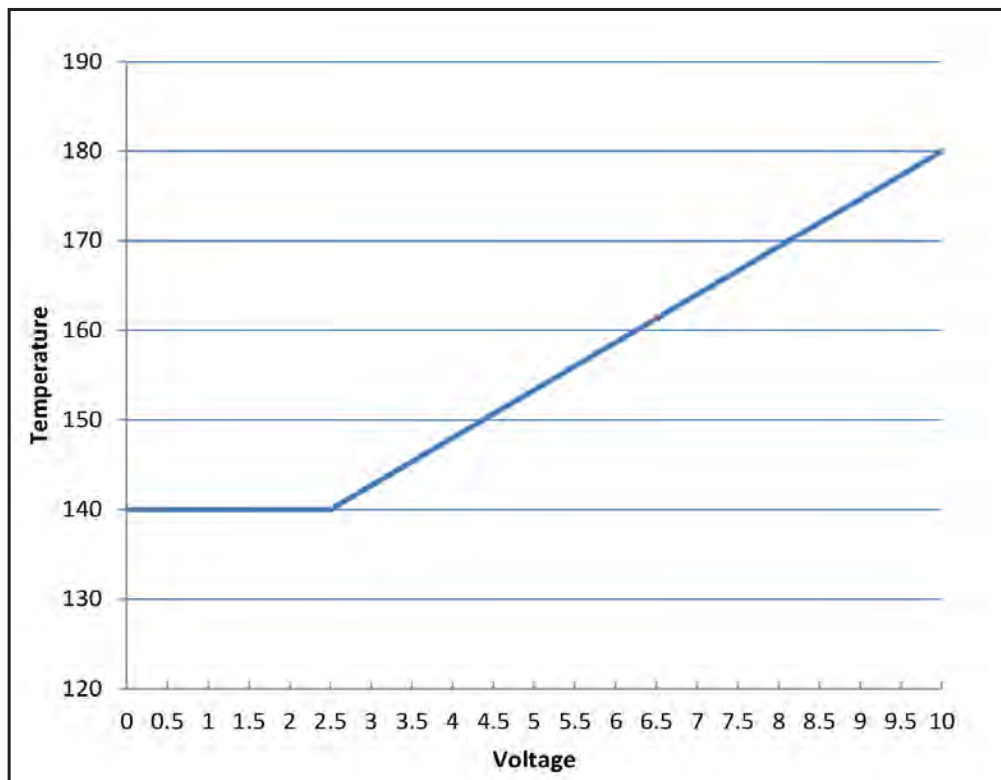

Figure 29. External Set Point Example
- Using the default values for Boiler Max Set Point (180°F), Boiler Min Set Point (140°F), Demand Minimum (2.5VDC), Demand Maximum (10.0VDC), the unit will linearize the set point, as shown in **Figure 29**.